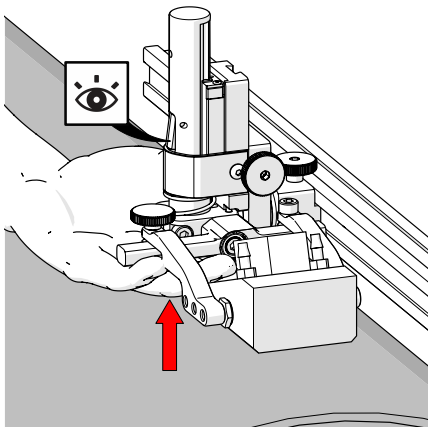
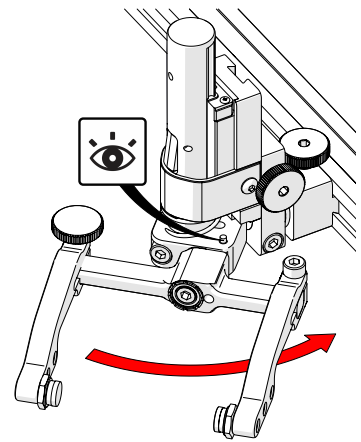

Fig. 118 - Latch probe holder
Fig. 124 - Stop post locates 90°
1. Ensure the probe holder is in the latched upper position. Do this by lifting the probe holder till the latch is fully exposed (Fig. 118).
1. Ensure the probe holder is in latched upper position (*Fig. 118*).
To return the transverse adjustment to neutral ( $90^\circ$ ). The probe holder must be in the latched, upper position (*Fig. 118*). Rotate the yoke until the stop post contacts the base of the probe holder (*Fig. 124*). Then tighten the transverse adjustment screw.
1. Ensure the probe holder is in latched, upper position (*Fig. 118*).
1. Ensure the probe holder is in latched, upper position (Fig. 118).